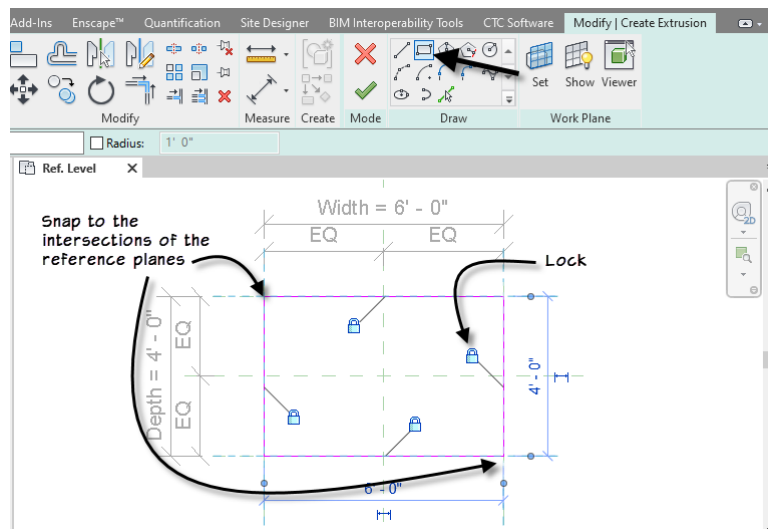

Figure 9
2. On the Modify | Create Extrusion tab, on the Draw panel, click the Rectangle shape (see Figure 9).